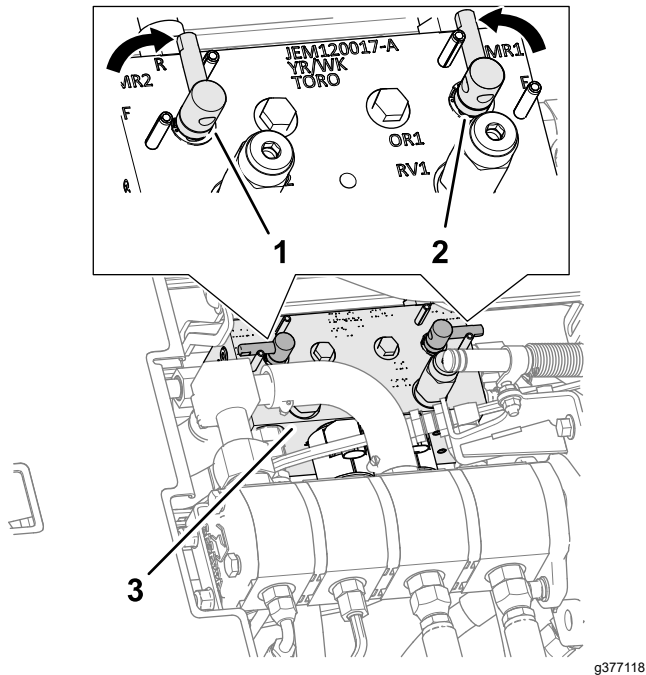

Figure 117
4. Unlock and raise the seat to expose the mower manifold (Figure 117).
5. Move the backlap levers to the R (backlap) position (Figure 117).